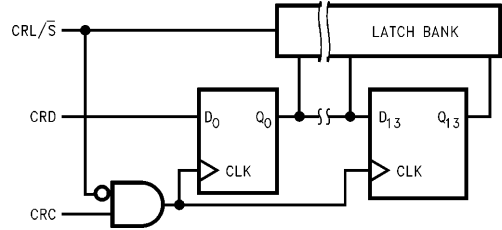

FIGURE 11. CTRL Register Block Diagram
The control register is comprised of a fourteen-bit serial shift register and a fourteen-bit latch (Figure 11). Information is strobed into the shift register via the CONTROL REGISTER DATA (CRD) input on the positive edge of the CONTROL REGISTER CLOCK (CRC) input with the CONTROL REGISTER LATCH/SHIFT BAR (CRL/S) pin at a logical low state. The information is parallel transmitted to the latch bank and the ENDEC when the CRL/S input is taken to a logical high state. The control register truth table (Table I) describes the functions controlled by each bit in the control register. The bit at the right of each bit stream (13) in the table is the first bit entered into the shift register.